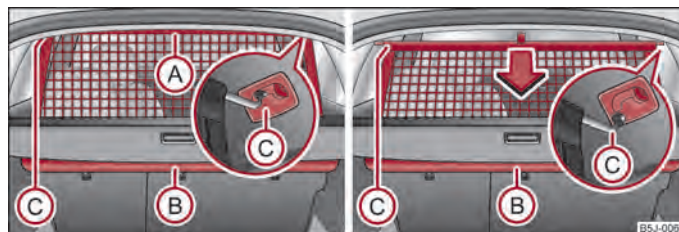

Fig. 53 Pull out the rear bulkhead/roll up
- Pull the rear bulkhead at the bracket (A) out of the housing (B) in direction of the holders (C). → fig. 53
- Insert the cross rod into one of the mounts (C).
- Pull the cross rod back slightly, first on the one side then on the other side and take the cross rod out of the mount (C) → fig. 53.
- **Hold** the cross rod in such a way that the luggage net partition can roll up slowly and without damage into the housing (B).